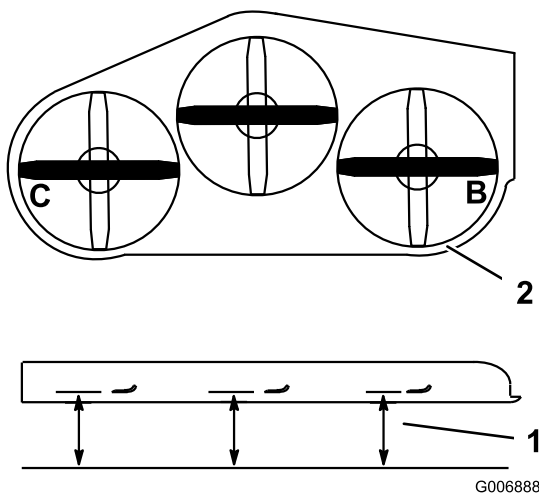

Figure 63
1. Position the **right** blade side-to-side (Figure 63).
2. Measure the right blade at the **B** location, from a level surface to the cutting edge of the blade tip (Figure 63).
4. Position the left blade side-to-side (Figure 63).
5. Measure the left blade at the **C** location (Figure 63), from a level surface to the cutting edge of the blade tip.